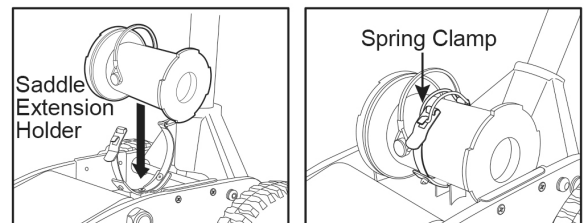

FIG.8
- B. Place saddle extension side-ways into the holder and secure spring clamp over the top. FIG.8